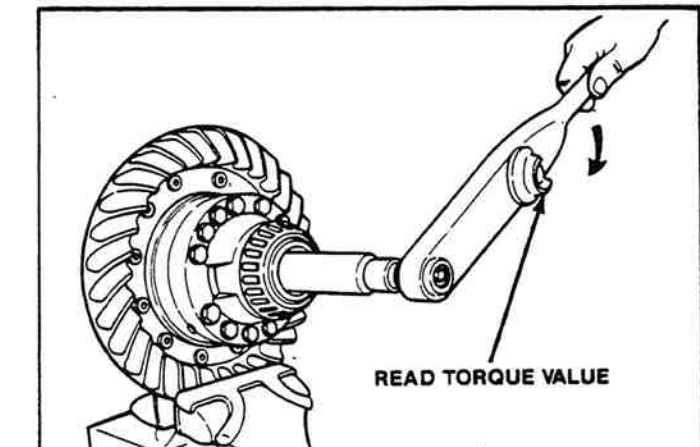

Figure 2-73. Reading Rolling Resistance Torque.
d. Attach a torque wrench to the nut of the tool and rotate the differential gears. As the differential gears rotate, read the value indicated on the torque wrench (Figure 2-73).